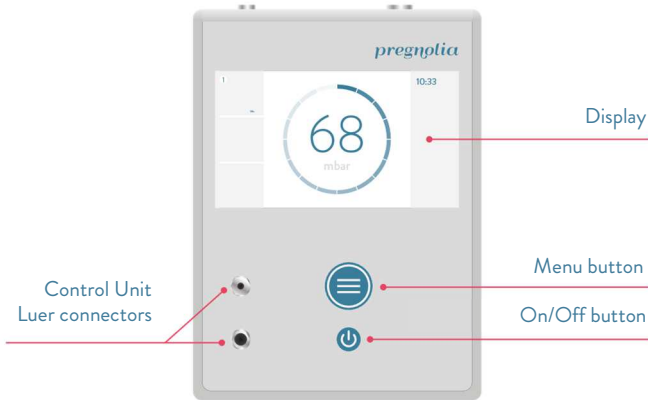

FIGURE 13: Front of the control unit console.
- 5) Connect the *connector cable* to the Luer connectors on the *control unit console* (*control unit Luer connectors*, refer to FIGURE 13).
- 6) Turn on the *control unit console* (On/Off button, FIGURE 13). The *control unit console* will emit an audio signal3.